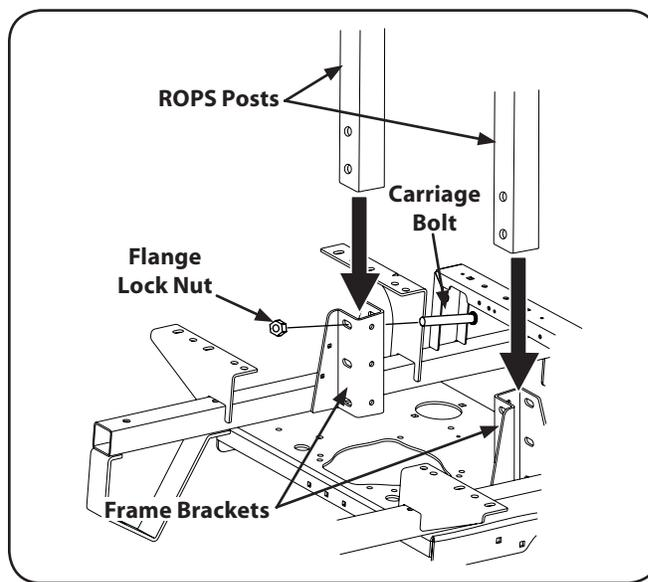

Figure 3-2
1. Insert each of the lower section ROPS tubular "posts into the brackets welded to the unit main frame. See Fig. 3-2.
**NOTE:** The ROPS pivot holes should be positioned toward the rear of the unit. See Fig. 3-2.
2. Insert the carriage bolts (1/2-13 x 3.25) (one per side) from the front toward the rear. See Fig. 3-2. Alternately from the rear toward the front if access is restricted.
3. Three holes are provided on each side. Use the Upper hole and one of the other two remaining holes that is easily accessible. Install the retaining nuts, but do not tighten. See Fig. 3-2.
- Tighten the frame mounting hardware to 80-90 lb.-ft. torque. See Fig. 3-2.